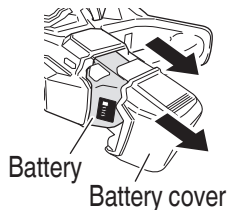

Fig. 23
- (5) Detach the battery cover and battery. (**Fig. 23**)